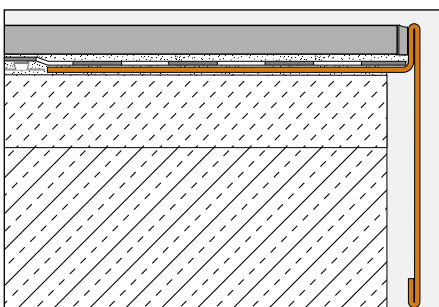
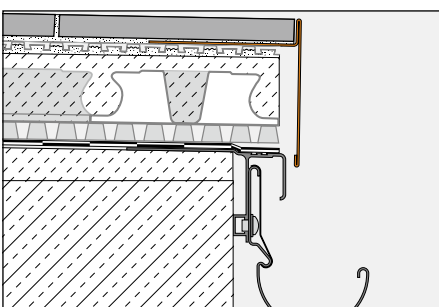

Fig. 4
Fig. 5
Installation in conjunction with tile coverings (Fig. 4 and 5)
2. Embed the trapezoid perforated anchoring leg of the edging profile Schlüter®-BARA-RT on the edge of the screed (Fig. 4) or on the previously installed drainage mat Schlüter®-DITRA-DRAIN (Fig. 5) by placing it into the contact layer of thin set adhesive and trowel additional adhesive over the leg so that it is completely covered.